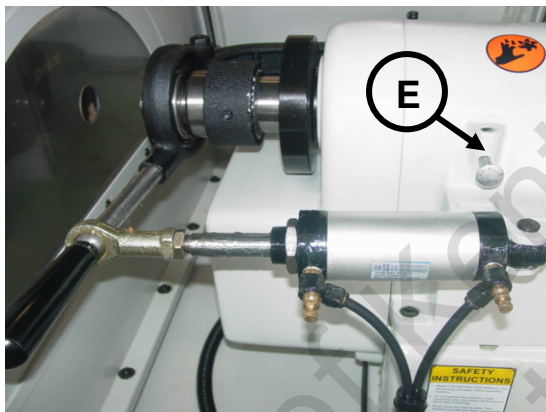

Figure 8-Spindle Lock
2. Push the lock Pin “E” (Figure 8). To engage lock pin, turn spindle by hand till lock pin enters notch to lock.